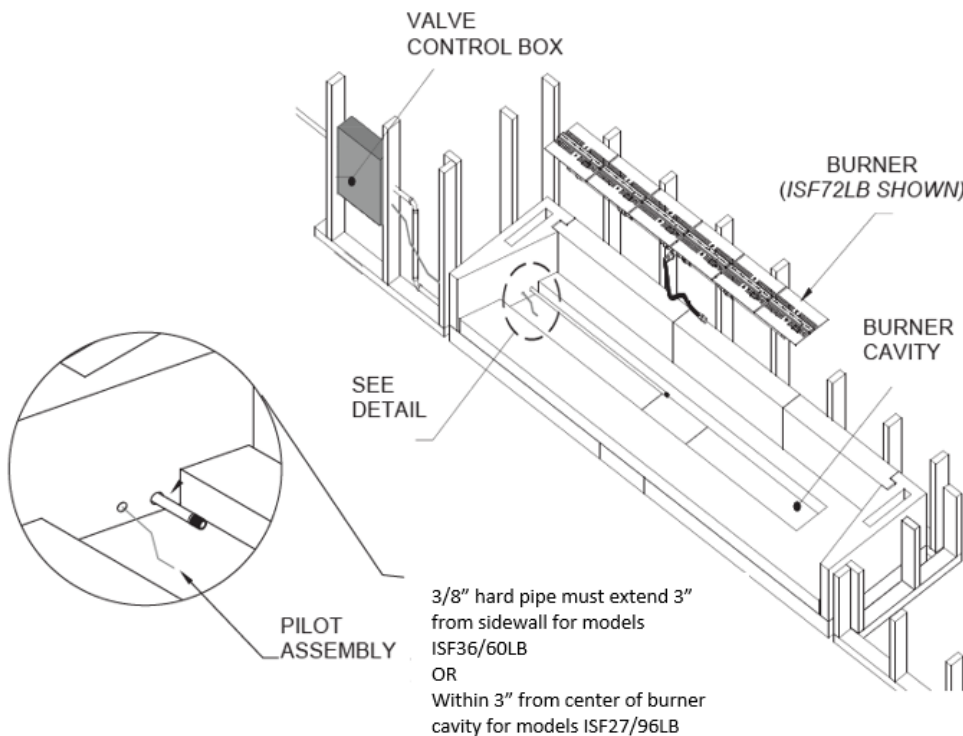

FIGURE 60
- 4) The 48” and 72” Maximus Linear Open Front fireplaces (82L48 & 82L72) will require the ISF36/60LB (respectively): Gas supply piping for these models shall terminate not less than 3” from sidewall. **(Figure 60)**
- 5) The 96” and 120” Maximus Linear Open Front fireplaces (82L96 & 82L120) will require the ISF72/96LB (respectively): Gas supply stub piping for these models shall terminate within 3” from center of the cavity. **(Figure 60)**